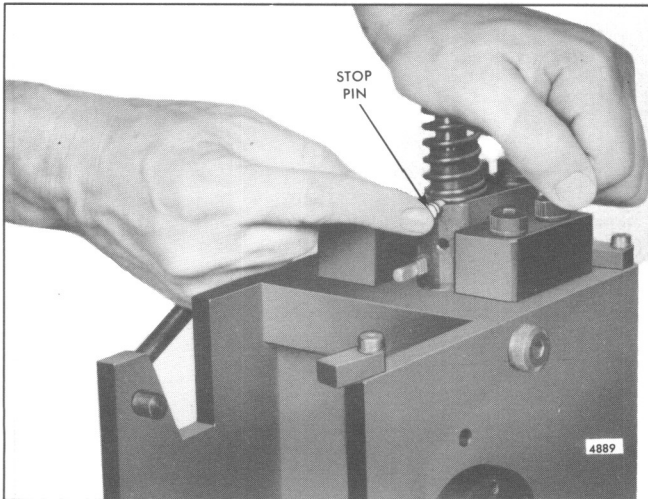

Fig. 33 - Installing Injector Follower Stop Pin
25. Refer to Fig. 33 and place the stop pin on the injector body so that the follower spring rests on the narrow flange of the stop pin.